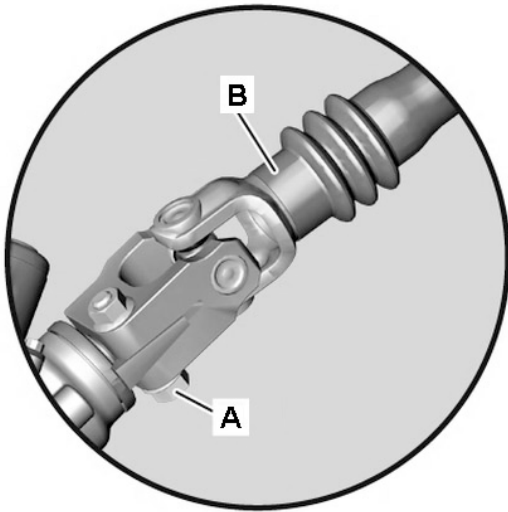

Figure 1
2.  Check tightening torque of steering coupling bolt connection (A, Figure 1) at **bottom** universal joint on rack-and-pinion steering:
-  **Note:** The steering coupling bolt connection (A) **must not** turn before reaching **24 Nm**.
- If the steering coupling bolt connection (A) **does not** turn prior to the test torque of 24 Nm **(OK)**: Procedure is complete.
- If the steering coupling bolt connection (A) **turns** prior to reaching the test torque of 24 Nm **(NOT OK)**: Continue with Procedure:
- 3. **Replace** nut and bolt (Figure 1) then torque steering coupling bolt connection (A) to **24 Nm**.